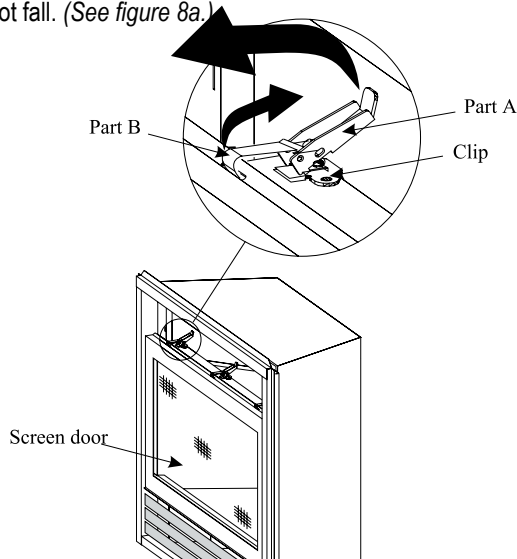

Figure 8a. Operating the door latches.
Remove the trim (as described on the next page) to access the door latches. Open the latches by pulling Part A upwards and towards you to disengage Part B from the door. Lift Part B clear of the door. Repeat for all three latches. Be sure to hold the door carefully so it does not fall. (See figure 8a.)
1. Remove the door as shown in Figures 8a-8c.